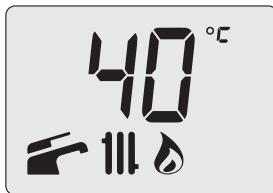

Figure 7.13
- Press the 18 button (Figure 7.2) to exit “programming mode” (Figure 7.13).